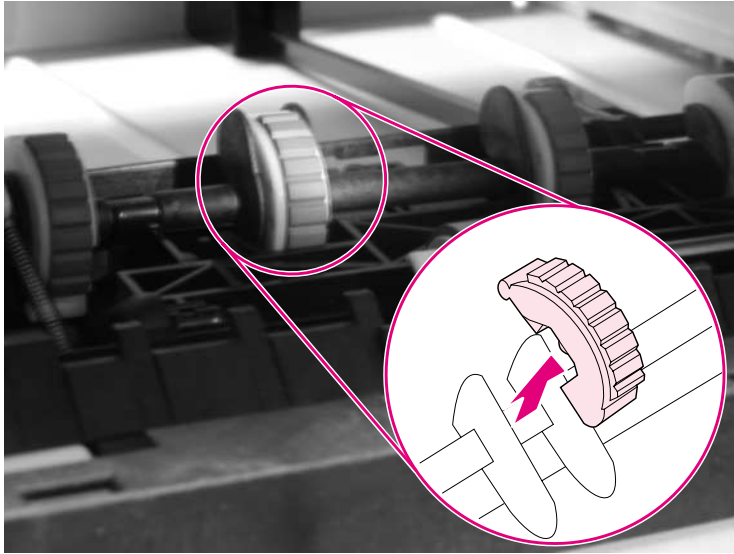

Figure 14 Removing the optional 500-sheet tray pickup rollers
- 3 Rotate the pickup roller shaft another 90 degrees to remove the rollers completely from the shaft (Figure 14).